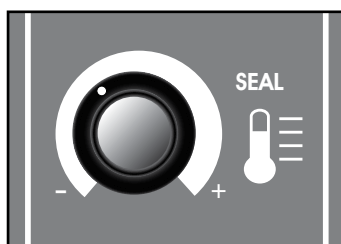

Figure 4
1. Set the HEAT SEALING control to indicate approximately 30%. (See Figure 4)